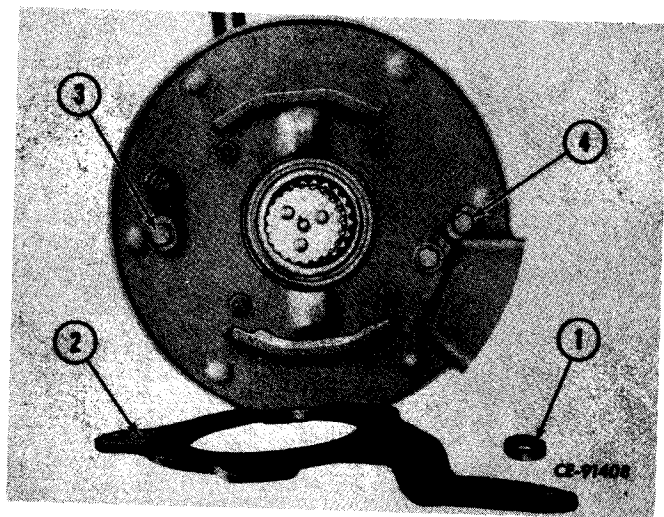

Figure 5-18
Remove operating cam lever (2, Fig. 5-18) and roller (1) from pawls (3 and 4) on backing plate.
Place roller (1, Fig. 5-18) on pawl (4) on backing plate. Place operating cam lever (2) on pawl (3) and under roller (1).